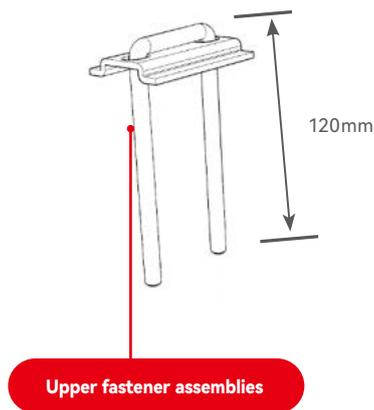

FIGURE 4
- First it is necessary to thread the hoop (120) into the short clip to form upper fastener assemblies (Figure 4) and then thread the hoop (140) into tall clip to form bottom fastener assemblies (Figure 5); Note the different lengths of hoop used for different assembly.